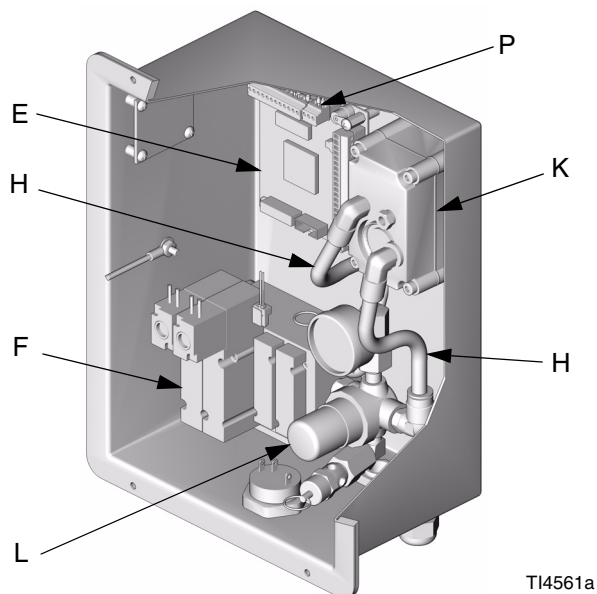

FIG. 3
5. Disconnect power supply wires (P) from J6 on main control board (E). See FIG. 3.
6. Disconnect two air lines (H) from alternator (K).